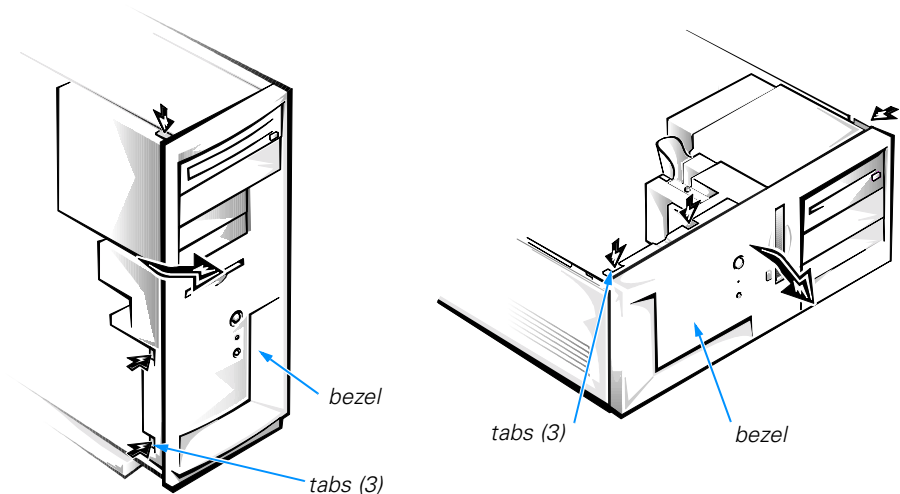

Figure 3-1. Removing the Bezel
2. While facing the front of the computer, press in the tabs at the top and side of the bezel as shown in Figure 3-1.